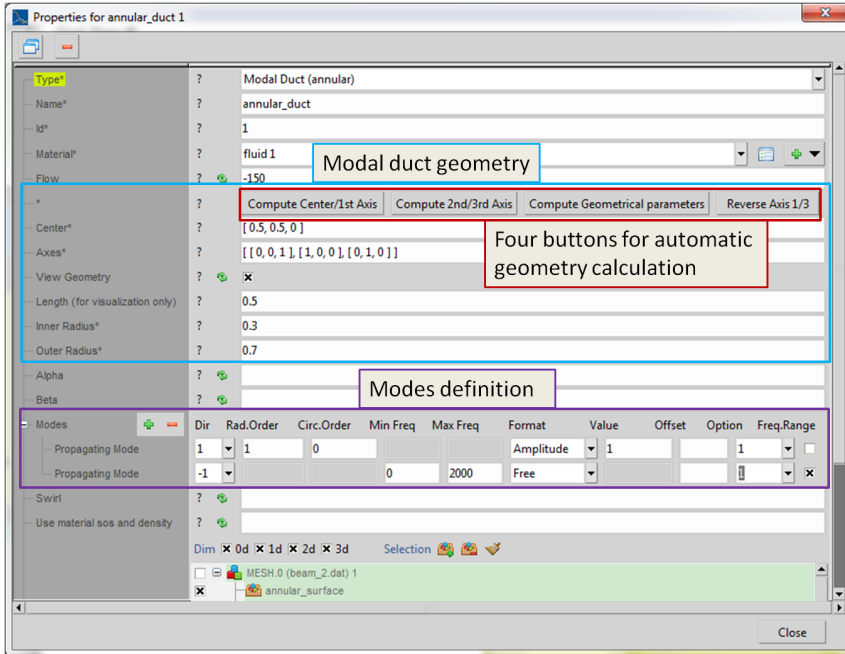

Figure 10.65: Property window of modal duct
The modal duct component has one specific feature allowing the automatic detection of the geometric properties defining the duct. In the property window (see Figure 10.65), four buttons can be used one after another. It is important to push the buttons in the right order (from left to right) after having selected the relevant domain in the scope selector. The three first buttons are used to define the parameters whereas the last button can be used to reverse the direction of the modal basis.
- Modal duct: In the property window of the modal duct component (Figure 10.65), one can configure the geometry and the modes of the modal duct. By activating the "view geometry" flag, the geometry of the duct is shown in the render window, illustrated in Figure 10.72.